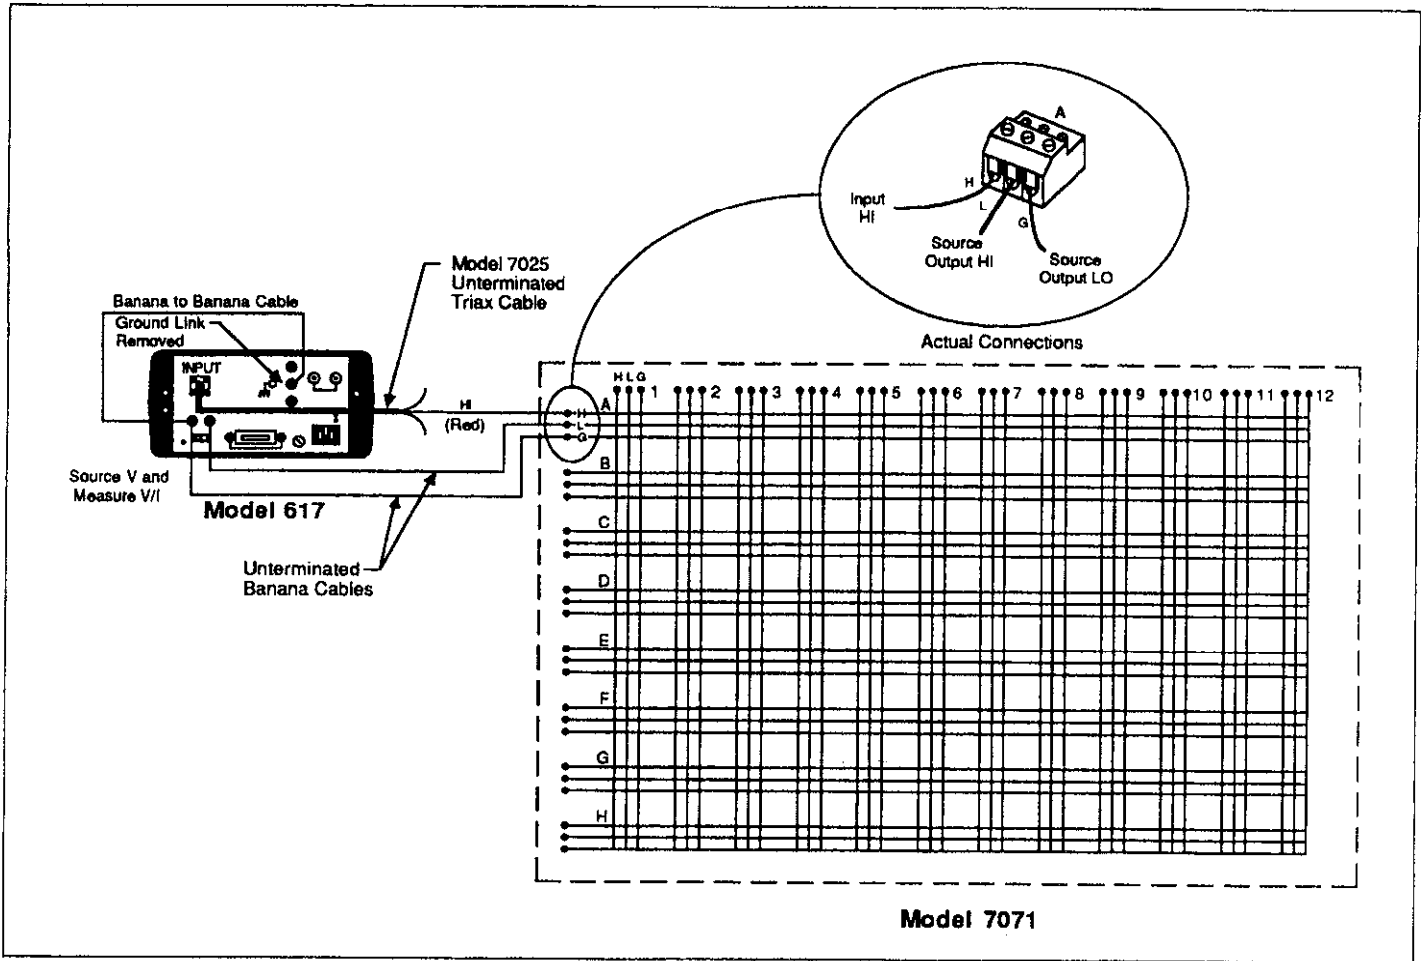

Figure 4-7. Differential Isolation Testing
2. Connect the Model 617 to a quick-disconnect terminal block as shown in Figure 4-7. Do not connect the terminal blocks to the matrix card at this time.